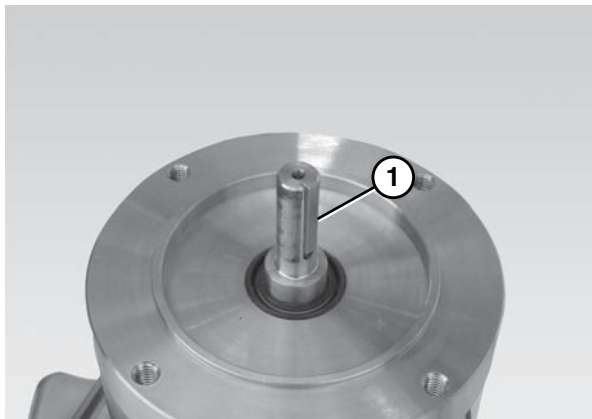

Figure 9
Ensure the gearmotor output shaft key (Figure 9, item 1) is situated properly before attaching the motor to the gear reducer.